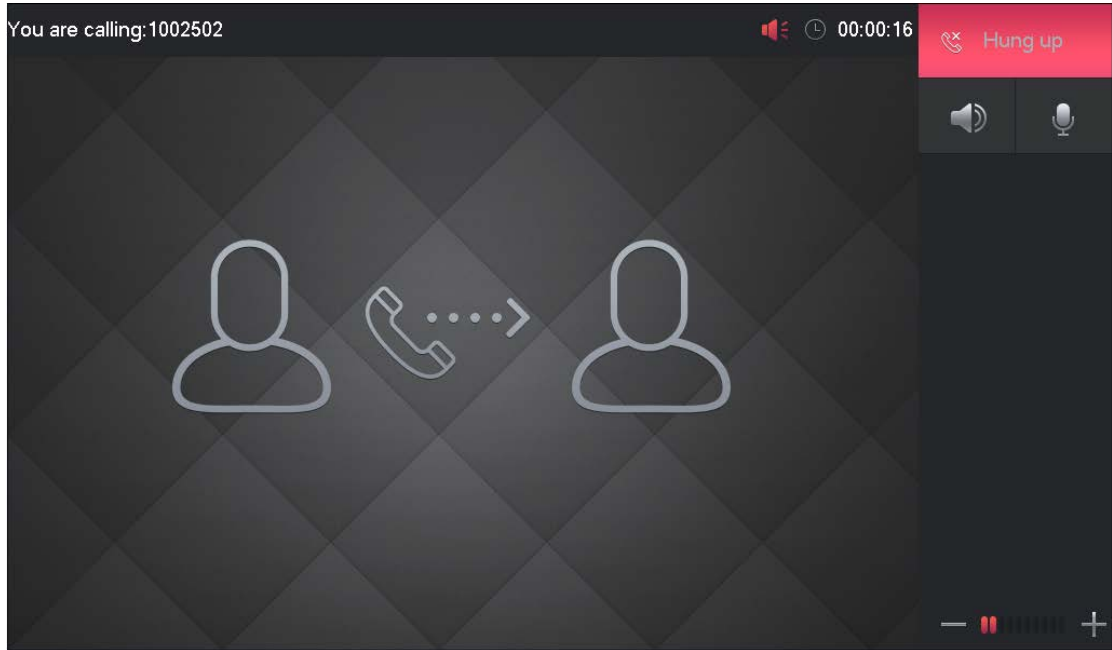

Figure 4-6
Step 2. Enter room no. of resident you want to call, click . When the resident accept call, you can have a bidirectional talk. See Figure 4-6.